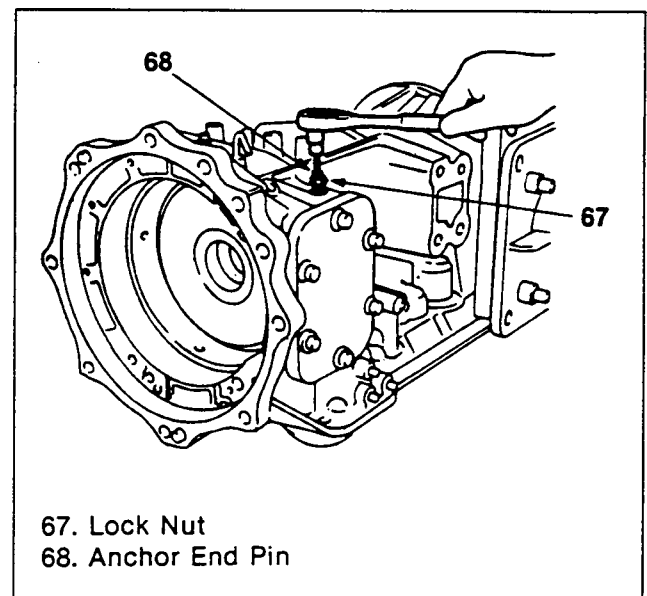

Figure 24. Brake Band Removal (1)
Brake Band (Figures 24 and 25)
1. With the oil pan section facing down, loosen the anchor end pin lock nut, and untighten the anchor end pin 3 to 4 turns (figure 24).